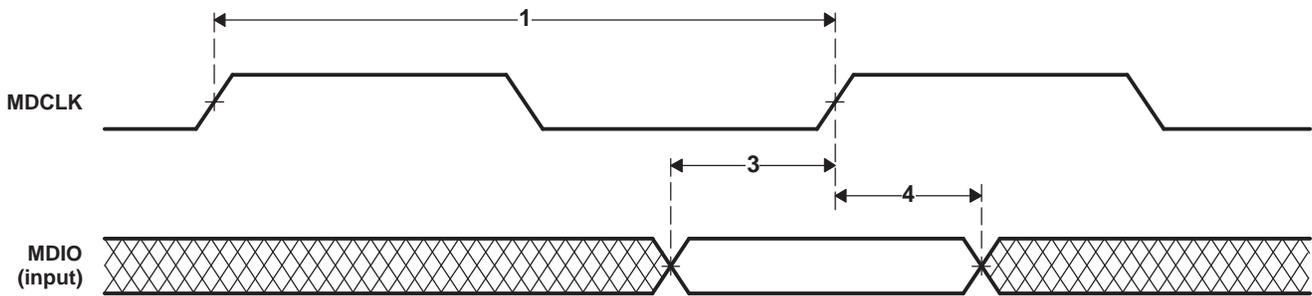

Figure 7-71. MDIO Input Timing
Table 7-90. Timing Requirements for MDIO Input (R)(G)MII (see Figure 7-71)